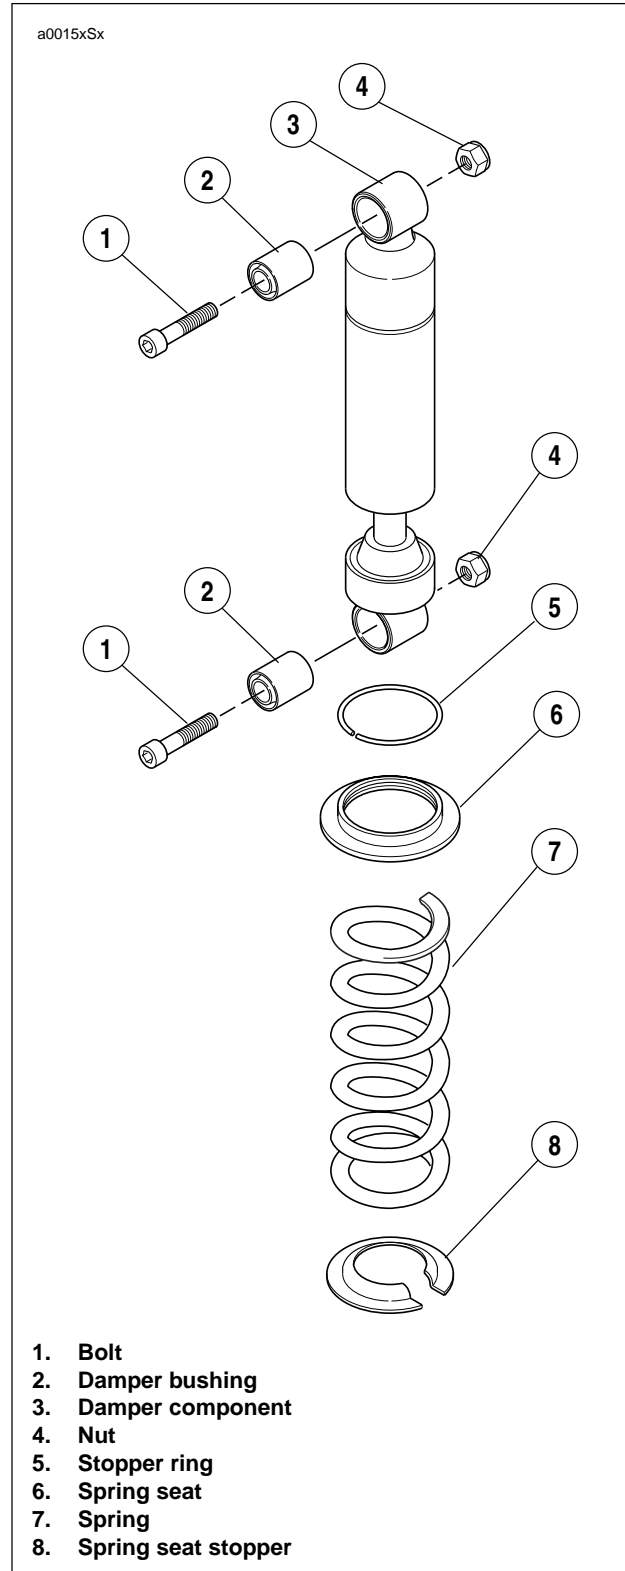

Figure 1-25. Rear Shock Absorber Assembly
See Figure 1-25. Damper component (3) cannot be serviced or repaired. If the damper component is leaking or damaged it must be replaced.